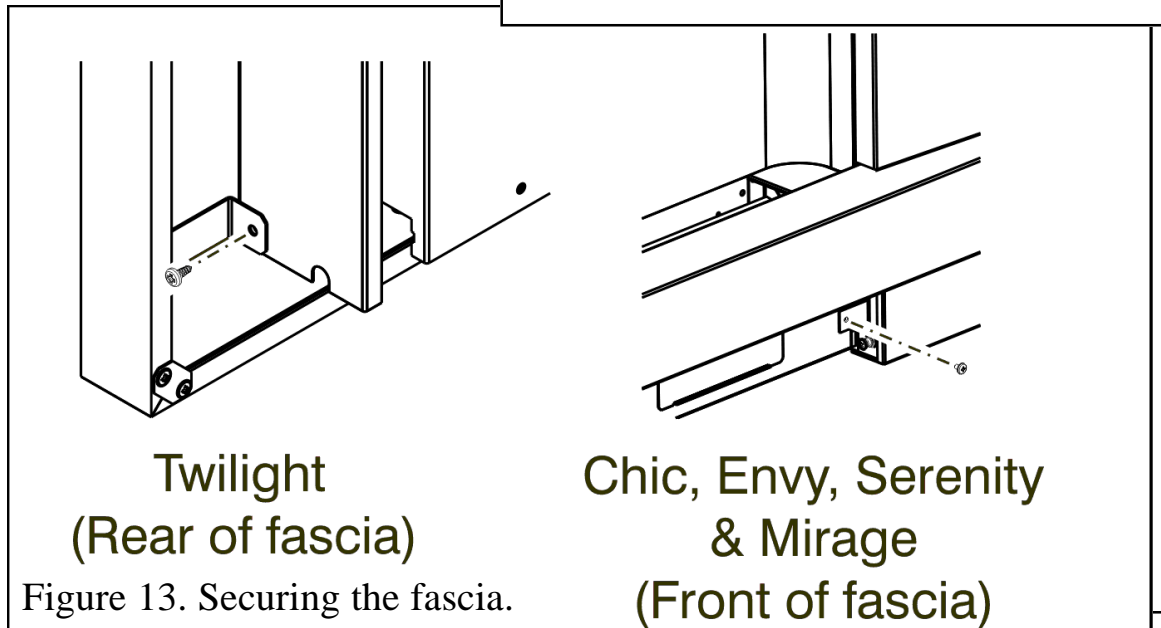

Figure 13. Securing the fascia.
2. The fascia is secured using the two screws with bright metal finish. These are located as in figure 13.